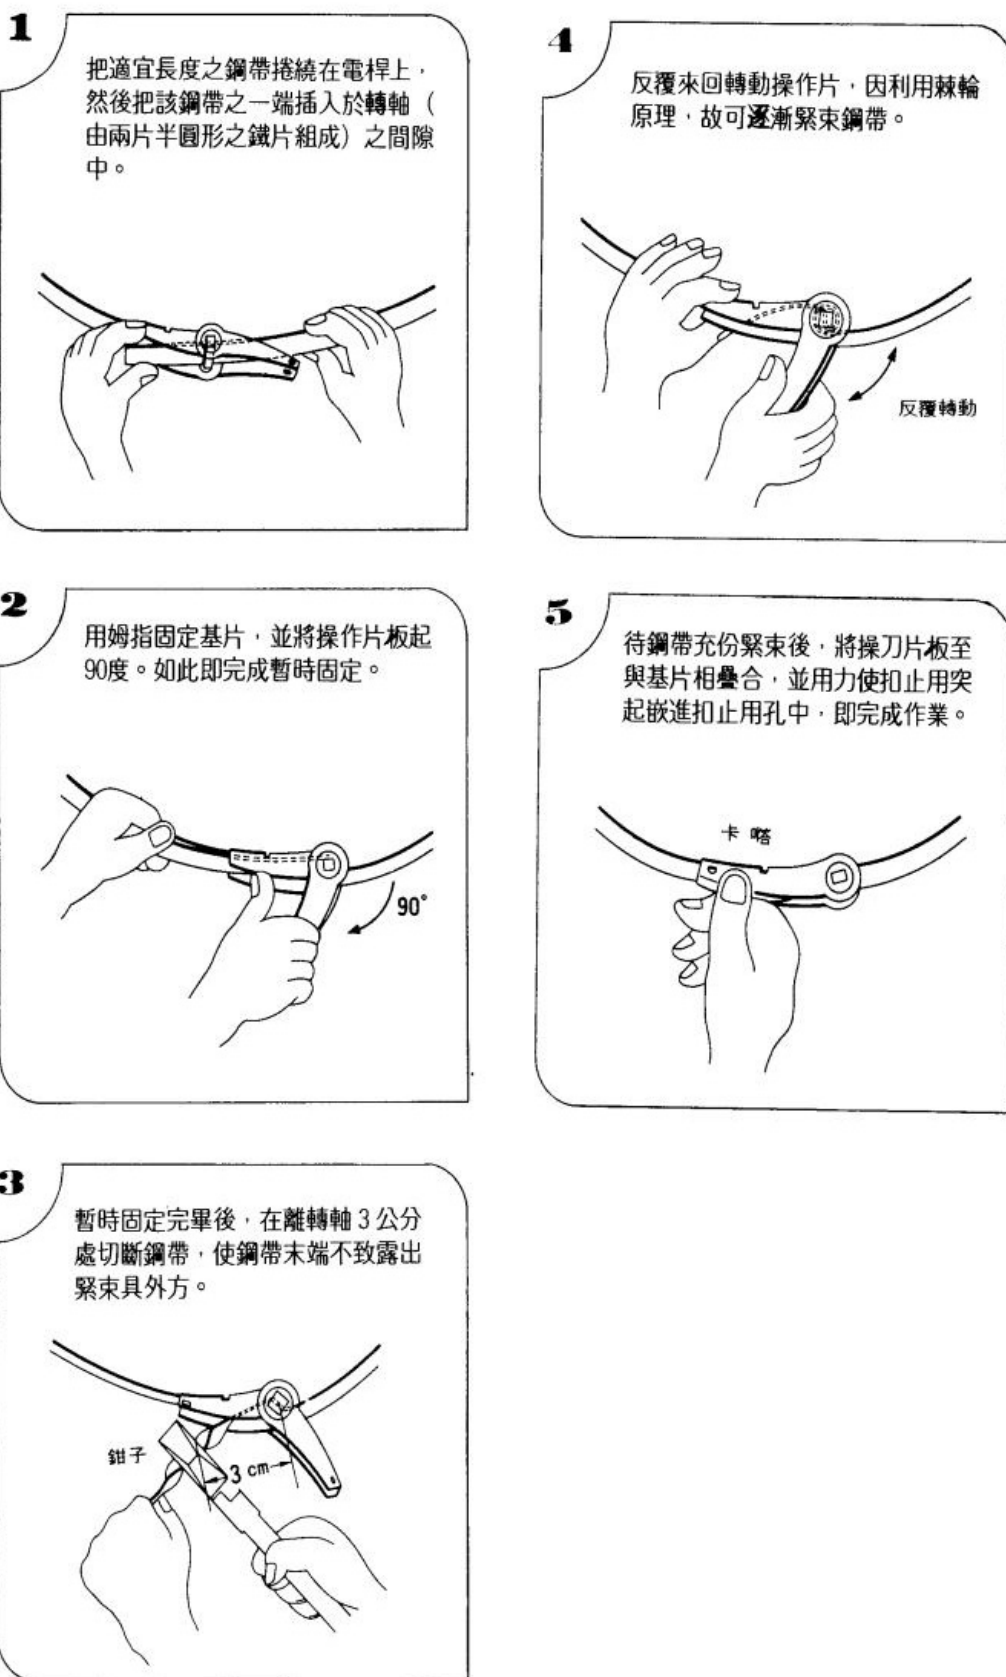

Figure. 5-3
Fix the rack from Step1 and Step2 on the pole by two stainless bands, component (5), respectively on the top and the bottom following the instruction in Figure 5-3.